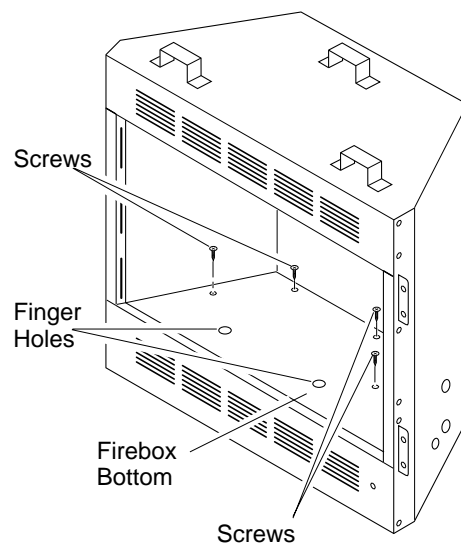

Figure 15 - Removing Firebox Bottom
- a. Remove the 4 screws that secure the bottom of the firebox (see Figure 15).